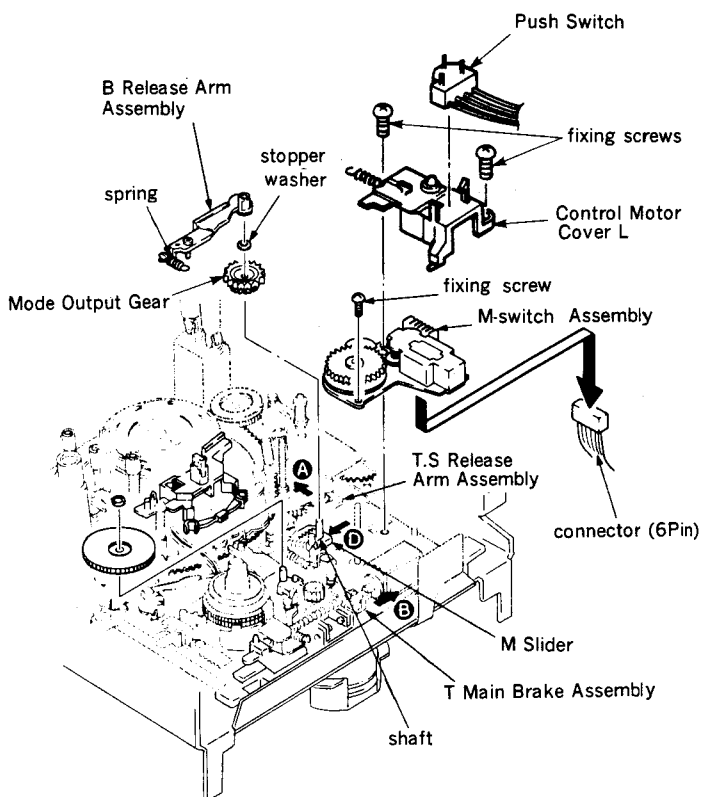

Fig. 2
- (1) Replace the M-switch Assembly with a new one.
- (2) Assemble the parts with Removal Steps (10) to (13) in reverse order.
- (3) Check that the mechanical block is put into **EJECT** mode.
- (4) Check that the M Slider moves fully in the direction of arrow D. (fig. 2)
- (5) Apply a half drop of oil on the shaft of the Mode Output Gear. (fig. 2)